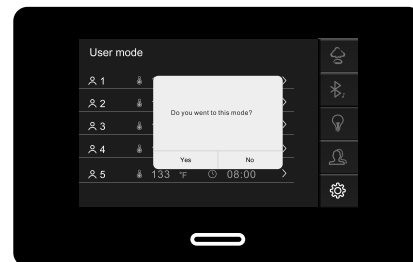

Figure 7
- Press  which is corresponding to the settings and press "Save" at the bottom of the small window to save the settings. (Figure 7)